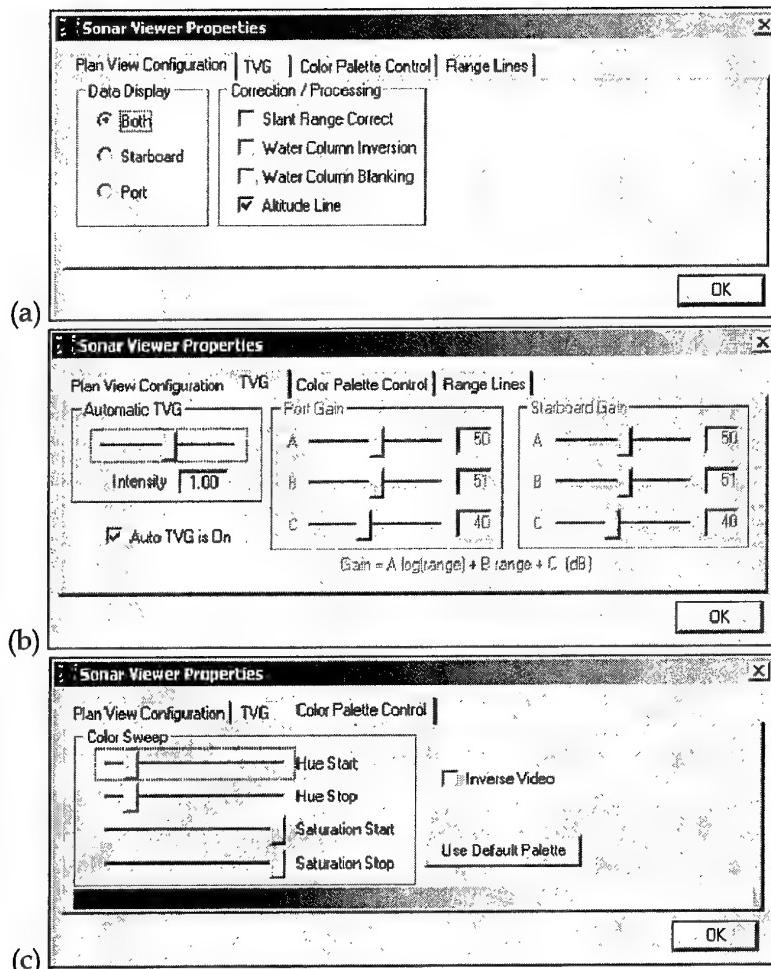

Figure 84 The three tabs of the Sonar Viewer Properties window. (a) Plan View Configuration, (b) TVG and (c) Color Palette.
- The Plan View Configuration icon controls whether or not the waterfall display (1) is corrected for Slant Range, (2) displays the altitude line, (3) displays the port or starboard or both, sidescan data, (4) blanks out the water column or (5) is inverts the colour of the water column. Figure 84(a) shows the Plan View Configuration tab in the Sonar Viewer Properties window.
- The Time Variable Gain (TVG) icon permits the operator to alter how the gain of the intensity is applied. The operator has the options of leaving the gain on Auto or adjusting the three components of the TVG, namely spherical spreading, absorption and scattering, for the port and starboard channels, using the slider rulers. Any adjustments made to the TVG will appear immediately in the waterfall display. Figure 84(b) shows the TVG tab in the Sonar Viewer Properties window.